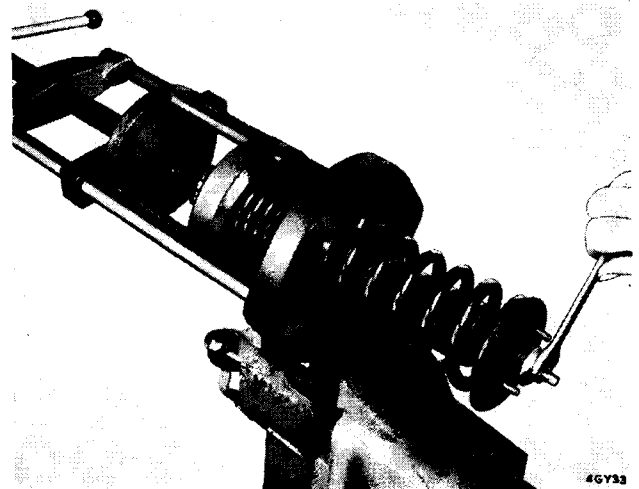

Fig. 12. Road spring dismantling
2. Using a press (Fig. 12) compress as many coils of the road spring as possible to relieve the load on the damper top nuts.
3. Remove the nuts (1, 2), washer (3) and rubber (4).
5. Withdraw the damper (9) from the upper spring pan (7) and road spring (8).
6. On Woodhead-Monroe dampers, remove the lower spring pan (68) and the collets (67).